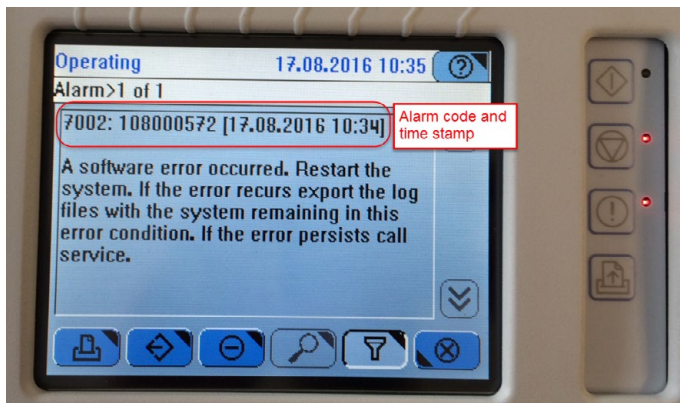

Fig 2: Detailed alarm message on instruments with old screen versions.
Whenever the here reported error “7002: 108000572 A software error occurred” (Fig 2 / 2.1) is listed in the message list the following procedure shall be applied:
1. Review the timestamp of the error message (see Fig 2 / 2.1)